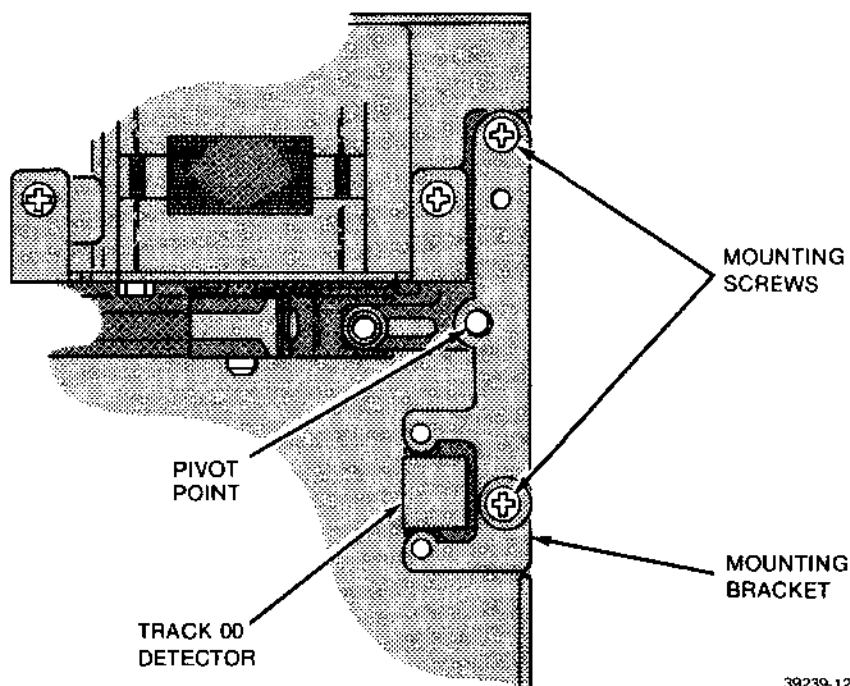

FIGURE 10-9. TRACK ZERO ADJUSTMENT
- k. Set drive to seek alternately between tracks 01 and 02 (455); 02 and 03 (465).
- l. Adjust eccentric until a 50 percent duty cycle is obtained (see figure 10-9).